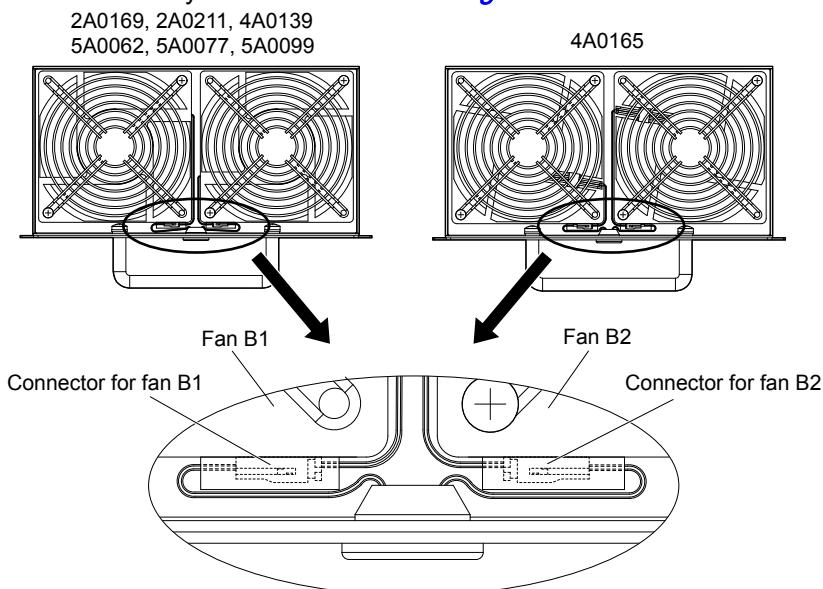

Figure 7.23 Cooling Fan Wiring: 2A0169, 2A0211, 4A0139, 4A0165, and 5A0062 to 5A0099
- Place the fan connector covered by the tube as shown in Figure 7.23.